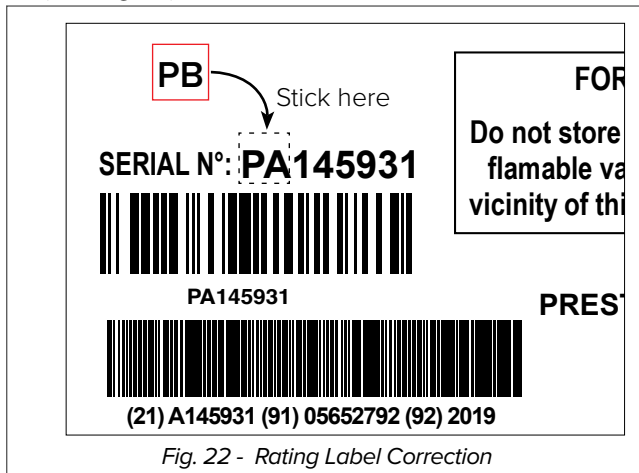

Fig. 22 - Rating Label Correction
- On the rating label of the appliance, cover the "PA" of the Serial Number with the "PB" label provided with the kit. This will indicate that the boiler has been upgraded with the ignition kit, for future reference (See Fig. 22).